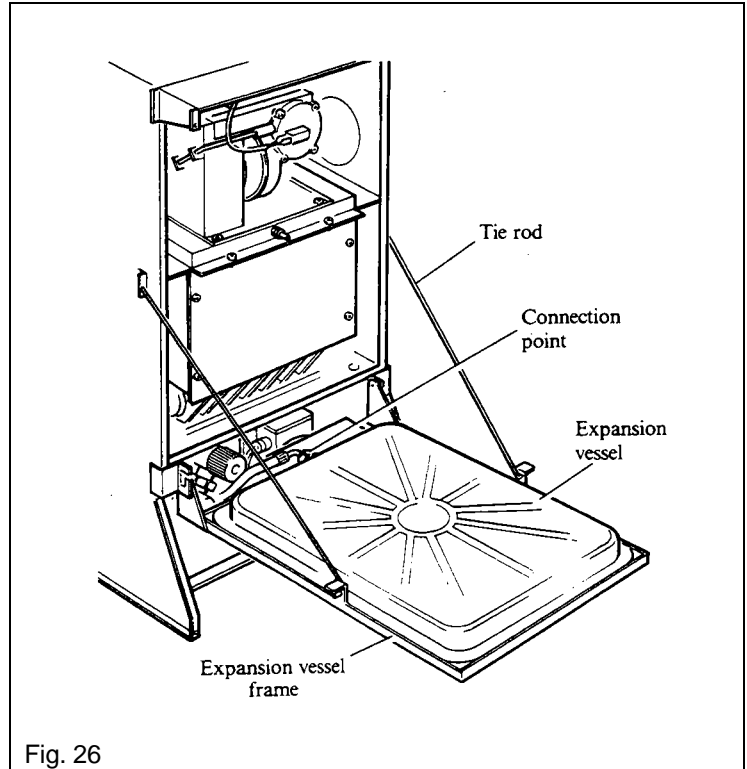

Fig. 26
Refer to Fig. 26.
2. With the control box lowered, locate the bottom of the expansion vessel frame into its pivoting point in the boiler chassis as shown in Fig. 26.
3. Hook the plain ends of the tie rods into the brackets on the sides of the boiler, then locate the other ends in the brackets on the expansion vessel frame. Pass the split pins through the ends of the rods to secure them in place at the expansion vessel end. See Fig. 26.